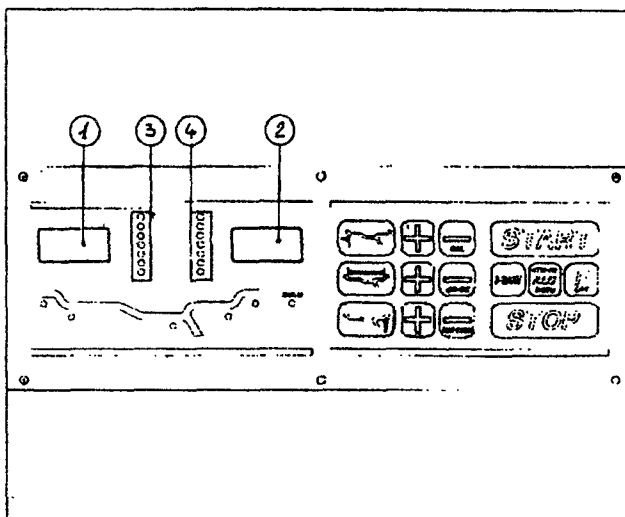

Fig.59
- F. Move the gauge in and out: the left display (#1 Fig.59) shows increasing/decreasing numbers to check that the gauge is working correctly.
F. Rotate the gauge: the left display (#1 Fig.59) shows increasing/decreasing numbers to prove that the gauge is working correctly.